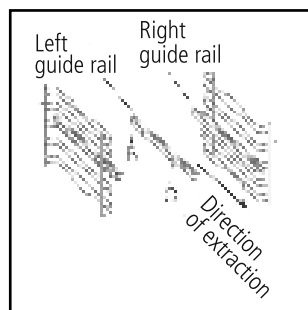

Fig 1.
- › Choose which shelf to use with the telescopic runner. Pay attention to the direction in which the runner is to be extracted, position joint 'B' and joint 'C' on the frame [see Fig.1].